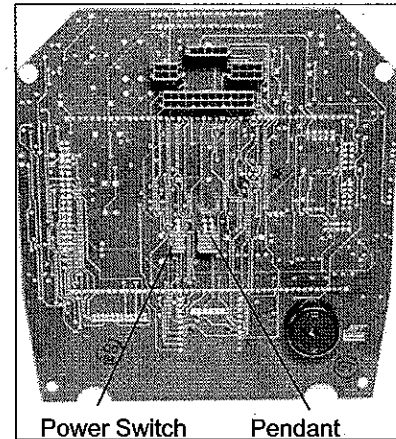

Figure 4-24: Controller PCB (Back)
- b. Disconnect the Pendant Port Cable Assembly from the back of the Controller PCB (see Figure 4-24).